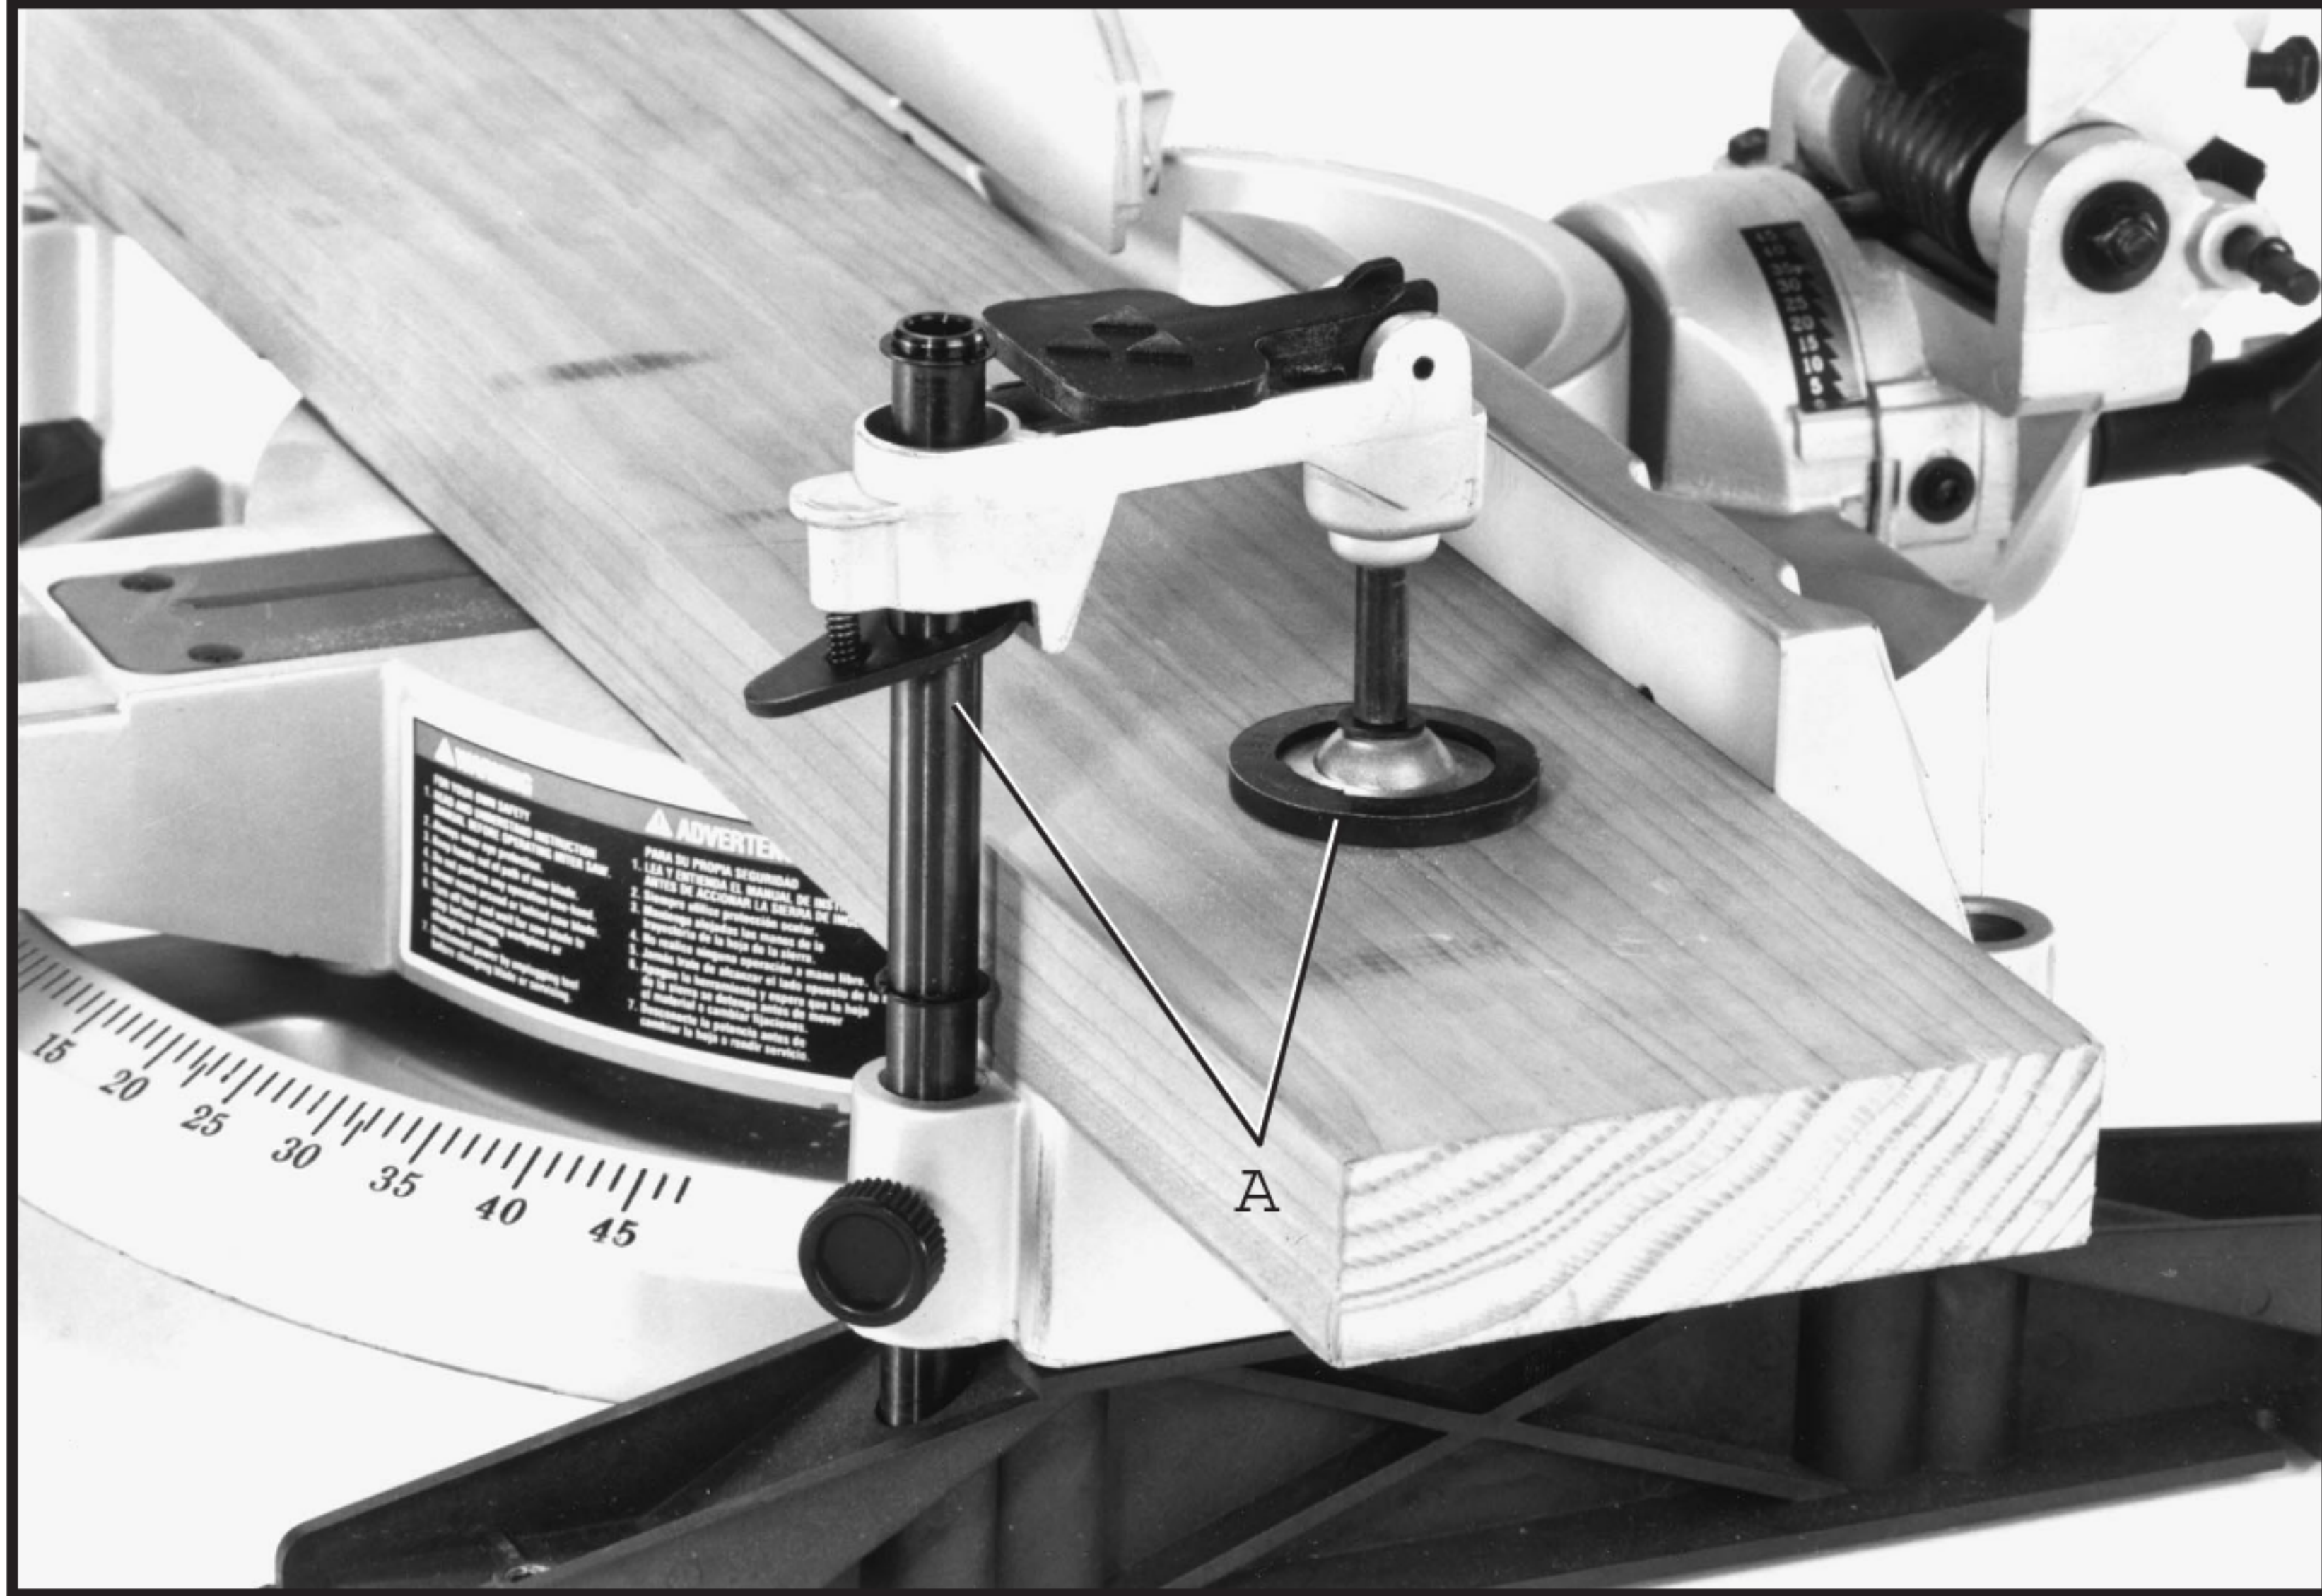

Fig. 41
3. Place the workpiece on the table and hold or clamp it firmly against the fence. Figure 41 illustrates the standard equipment work clamp (A) being used to clamp a workpiece to the fence and table. The clamp (A) can also be used in the rear position or on the left front side of the blade.
4. **WARNING:** If the workpiece you are cutting would cause your hand to be inside the table hazard area (see section TABLE HAZARD AREA), the workpiece should be clamped in place before making the cut, as shown in Fig. 41.